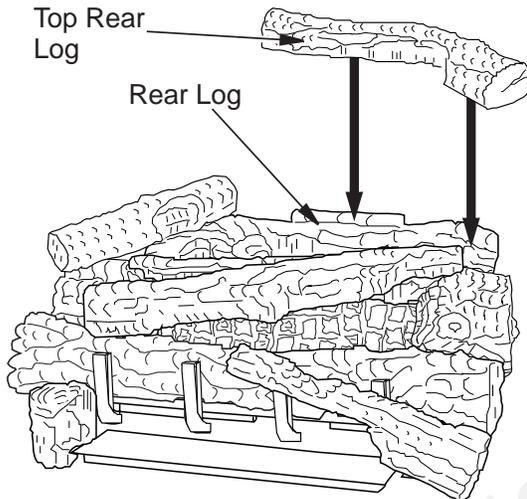

Figure 36 - Installing Top Rear Log
- Place the top rear log (18" D-071, 24" & 30" D-045) onto the rear log as shown. The rear log has a projection that will fit into the recess area on the bottom of the top rear log (see *Figure 36*).